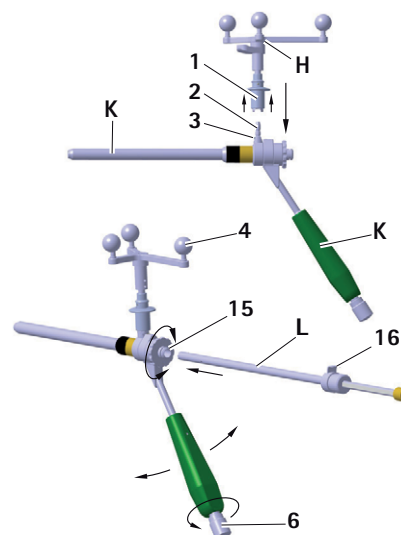

Fig. 12 Mounting the Aesculap star unit onto the S⁴C guide sleeve; Inserting the S⁴C inner drill sleeve
- To ensure that the camera has an unrestricted view of the reflective marker spheres, loosen knob 6 on the S⁴C handle of the S⁴C guide sleeve K and rotate Aesculap star unit H to the desired position, see Fig. 12.
- The inner drill sleeve engages on the inner sleeve and can still be rotated, see Fig. 12.